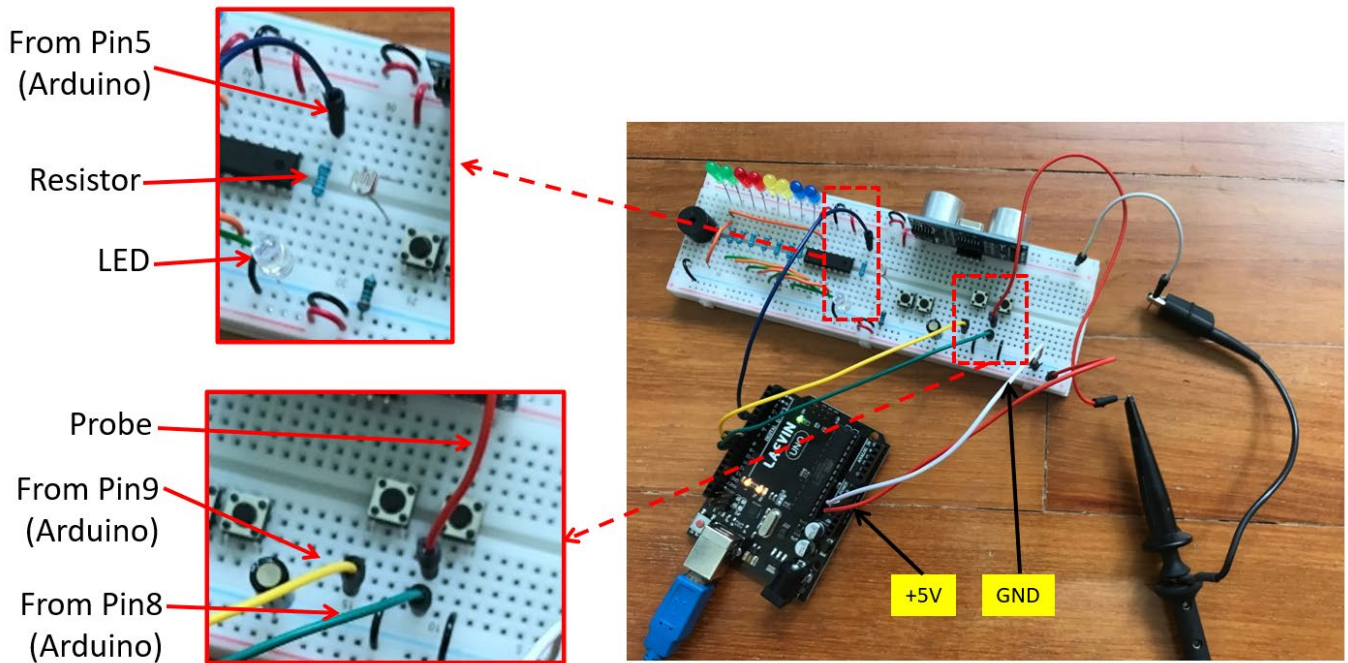

Fig 9: Hardware connections
- See Fig 9 for the connections. Note that if there are no separate power supply to the breadboard, you need to draw the power from Arduino Board's +5V. The photo in Fig.9 shows the +5V and Ground headers of Arduino board connected to the breadboard (the red and white wire from Arduino board).
- The photo in Fig.9 also shows how the oscilloscope probe needs to be connected to detect the voltage level at input pin of the processor.